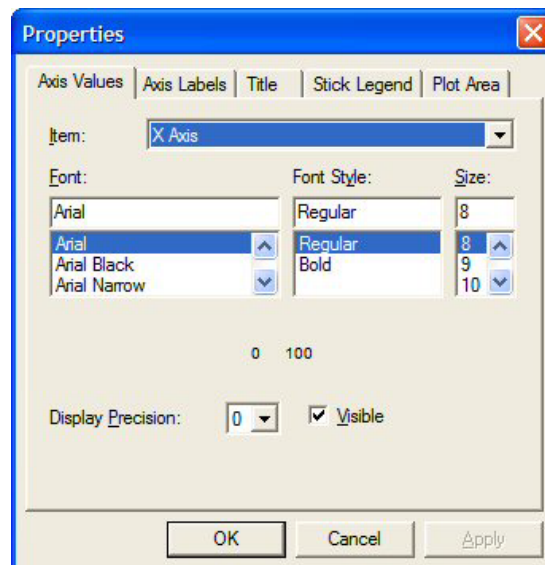

Figure 14. Ship Track Properties Dialog
- *How do I manually set the ranges for the plot axes?* Right-click the ship track plot and click on **Properties** (Figure 14). Click the **Plot Area** tab. Manually enter values for **Left**, **Right**, **Top**, and **Bottom**. On this property page, you may also change the font, turn on or off the grid lines and set their style, and change the aspect ratio method. Click **OK**.